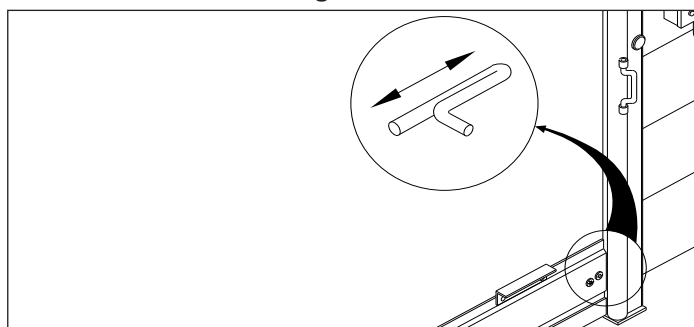

Figure 6.4
3. To lock the door with the optional dead bolt lock, fully close the door. Slide the dead bolts located in the bottom rail outward into the sideframes, Figure 6.4.
Make sure that the knobs are fully tightened to ensure that the edge retention clips are secure in the tracks to provide proper wind resistance, Figure 6.4.